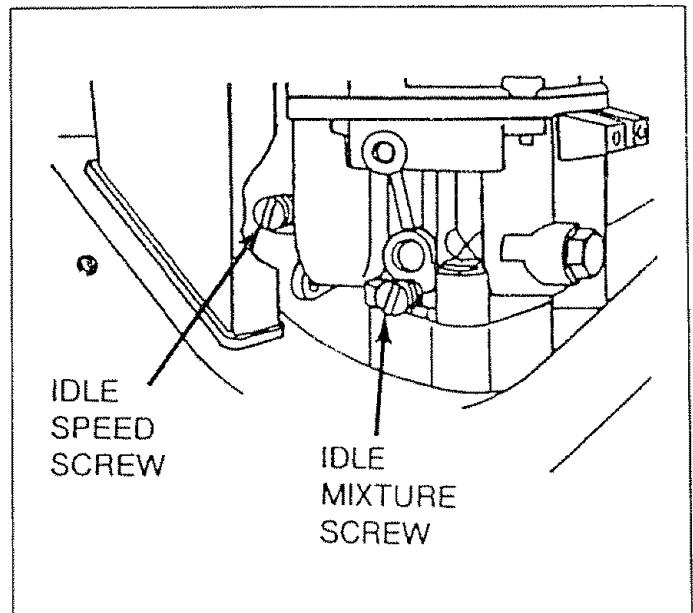

FIG. 20
- Gently turn IDLE MIXTURE valve (Fig. 20) clockwise until it just closes. DO NOT FORCE. Valve may be damaged by turning it inward too far.